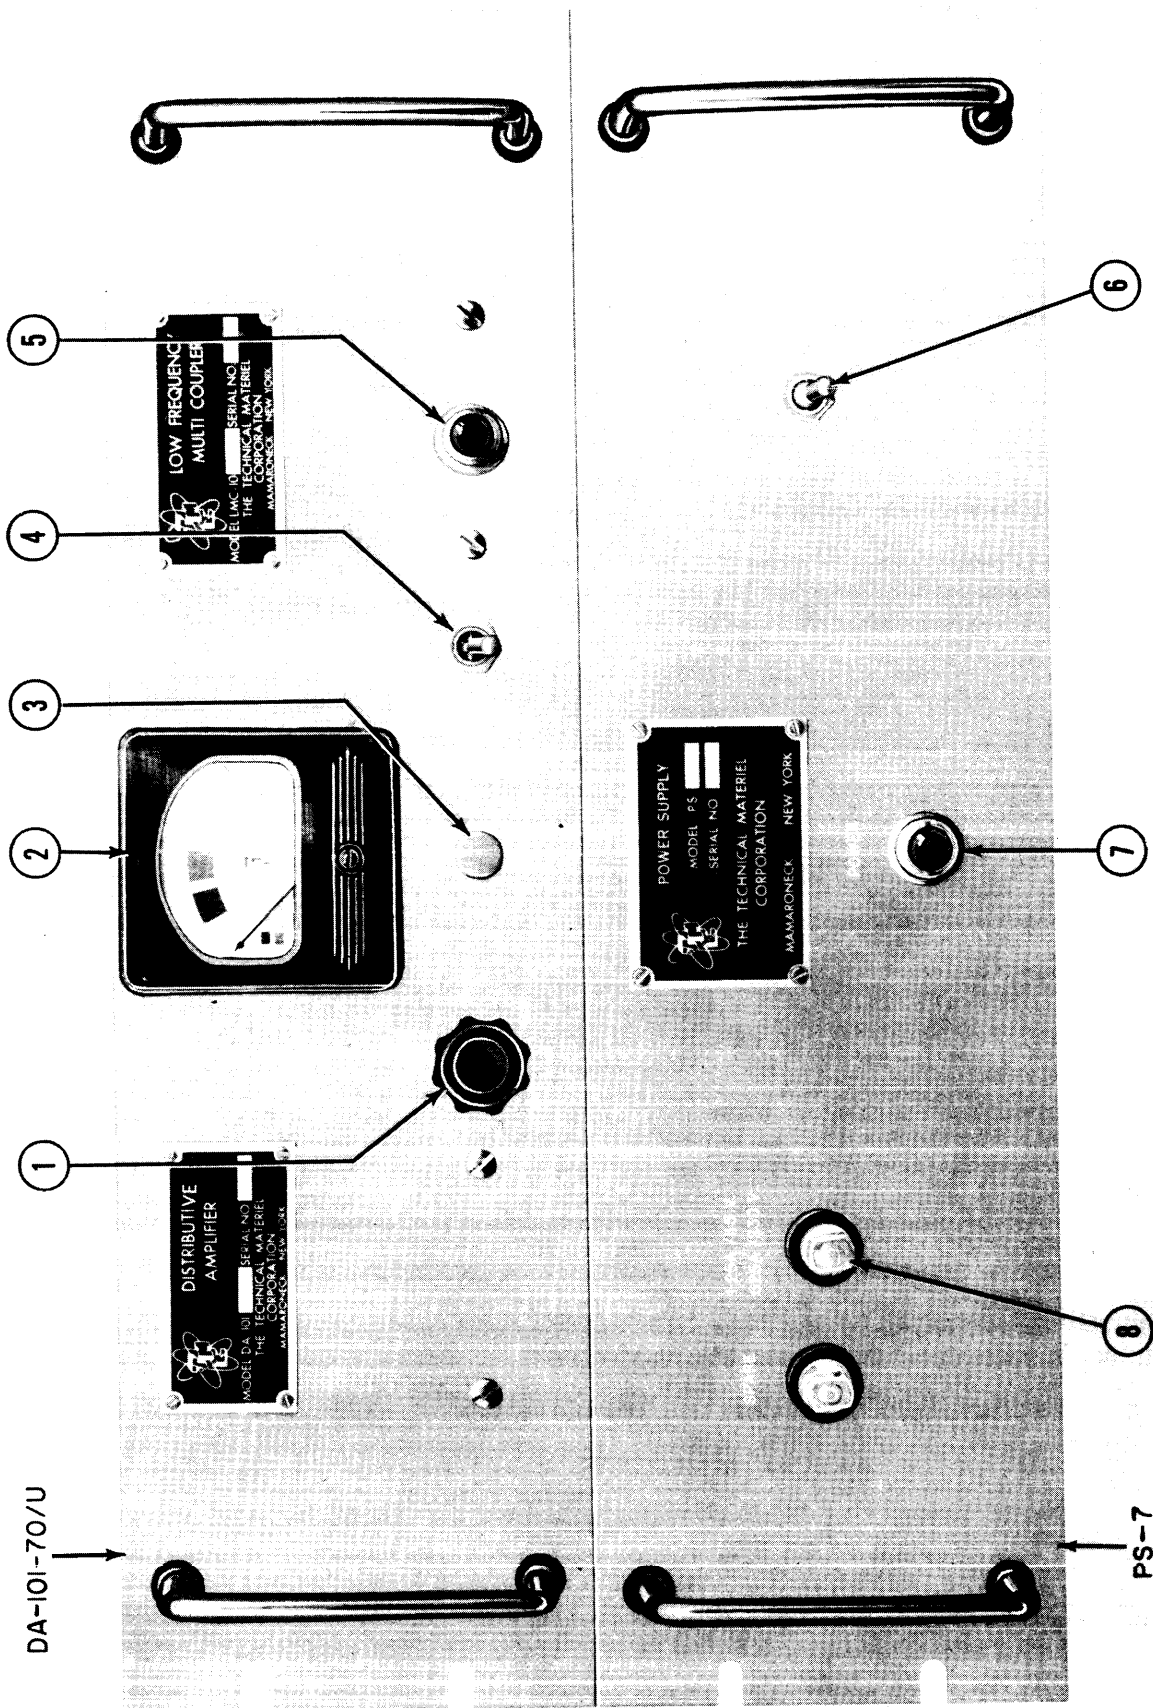

Figure 3-1. Panel View of LMC-10 Showing Operating Controls
Table 3-1 provides equivalent control designations for the operating controls shown in figure 3-1 and the component designations of figures 8-1 and 8-2.
1- SEE FIGURE 3-1 FOR LOCATION OF NUMBERED CONTROLS ON PANEL.
- 1- SEE FIGURE 3-1 FOR LOCATION OF NUMBERED CONTROLS ON PANEL.
1- SEE FIG. 3-1 FOR LOCATION OF NUMBERED CONTROLS ON PANEL.